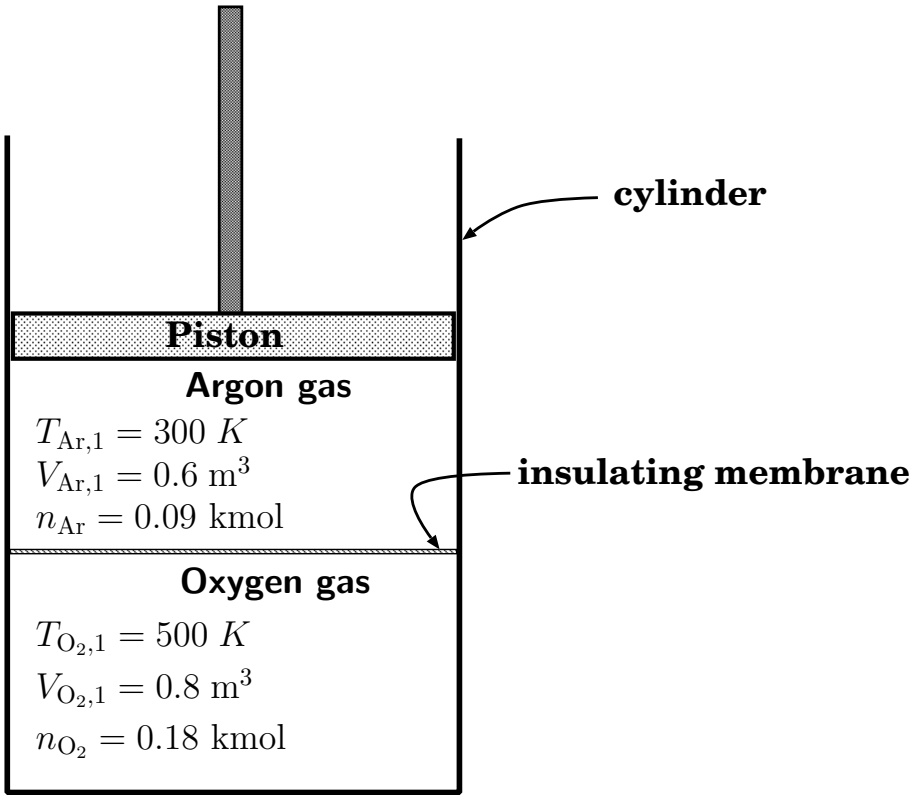

Figure 2: Figure for problem 2
2. Consider the piston-cylinder arrangement in Figure 2. Initially, two ideal gases, Argon and Oxygen, are separated by a thin insulating membrane and the piston-cylinder environment is such that each gas is held at its own State 1. There are $n_{\text{Ar}} = 0.09$ kmol of Argon gas occupying a volume $V_{\text{Ar},1} = 0.6 \text{ m}^3$ at a temperature of $T_{\text{Ar},1} = 300 \text{ K}$. Below the membrane there are $n_{\text{O}_2} = 0.18$ kmol of Oxygen gas occupying a volume $V_{\text{O}_2,1} = 0.8 \text{ m}^3$ at a temperature of $T_{\text{O}_2,1} = 500 \text{ K}$. With the piston held stationary, the membrane separating the two gases is ruptured, allowing the gases to mix completely and establish a new state of equilibrium (State 2) with temperature $T_2 = 400 \text{ K}$. The piston is then raised in a controlled manner such that the gas mixture expands polytropically according to the relation, $PV^{0.25} = C$. The polytropic process continues until the mixture temperature is $T_3 = 600 \text{ K}$ (State 3).